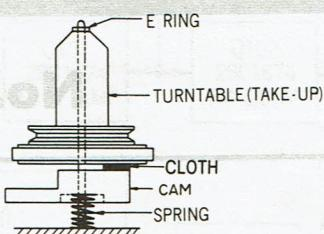
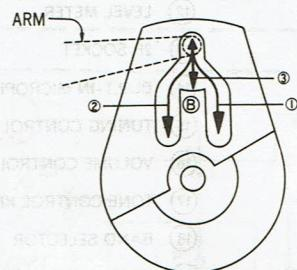
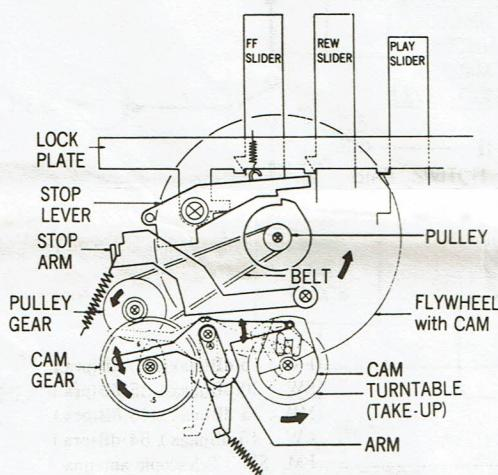
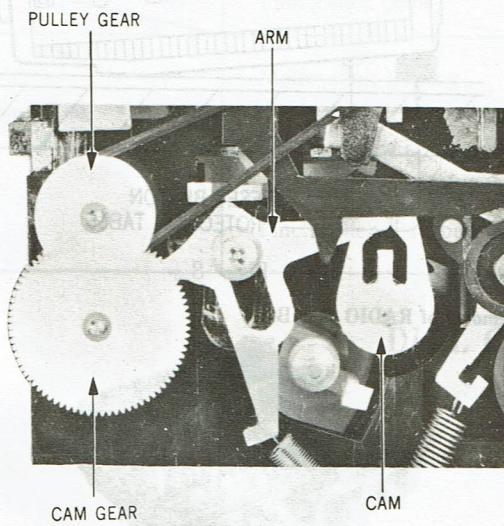

Fig. 1
Fig. 2
Fig. 3
Fig. 5
The operation of this mechanism is controlled by the turntable, cam, arm and flywheels shown in Figs. 1, 2 and 3. There is a sliding cloth between the turntable and cam on the rewind side. This cloth is attached to the cam and is made to touch the turntable by a spring under the cam shown in Fig. 1; it detects the direction of rotation of the turntable. There are 3 grooves with different functions in this cam as shown in Fig. 2.
- 1) Since the rotation of the turntable stops and the force of this rotation is removed, the cam stops in the condition shown in Fig. 5. (The cam always stops in this position except when the cam section of the cam gear is in the position ⑥ shown in Fig. 3.)
- 2) Tip of the arm slides along groove ③ as shown in Fig. 2. The stroke of the arm when sliding in groove ③ is less than when it is sliding in grooves ① and ②. When the cam gear reaches condition ⑥ as shown in Fig. 3, the cam makes the arm slide in the direction of arrow ③ with point B as fulcrum shown in Fig. 2.
- 3) When the arm slides, its tip causes the stop-arm to slide in the direction of arrow ④ with point C as fulcrum.
- 4) The stop lever slides in the direction of arrow ⑤ with point D as fulcrum.
- 5) In the center of the flywheel there is a convex part which engages with the stop lever when the tape comes to a stop. When the convex part and stop lever engage with each other, the stop lever is slide in the direction of arrow ⑧ by the rotating force of the flywheel.